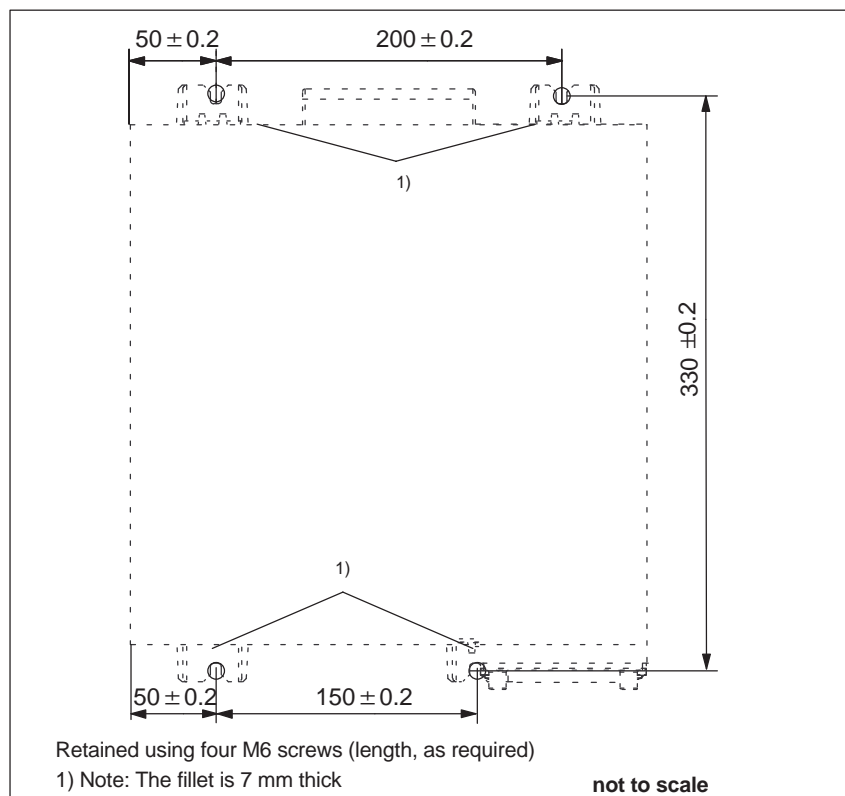

Fig. 2-1 Hole dimensions, POSMO CD 9A
- Mounting dimensions, refer to Figs. 2-1 and 2-2